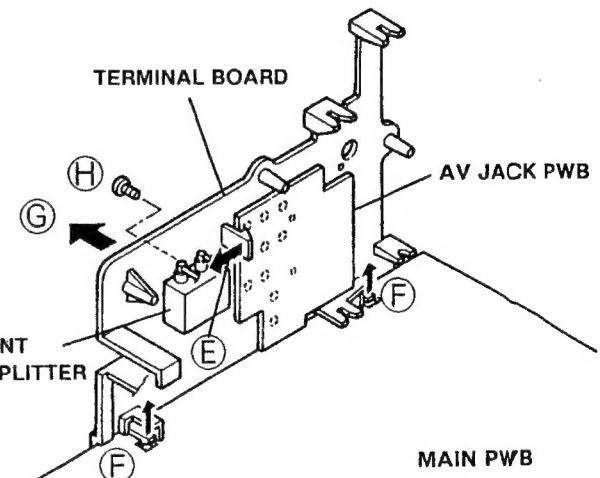

Fig.1
- 2. After removing the claw marked (E) from the AV JACK PWB in the direction of arrow mark as shown in Fig.1, remove the 2 claws marked (F) in the direction of arrow mark, then take off the TERMINAL BOARD in the direction of arrow marked (G).
1. Remove a screw marked (H) as shown Fig.1.